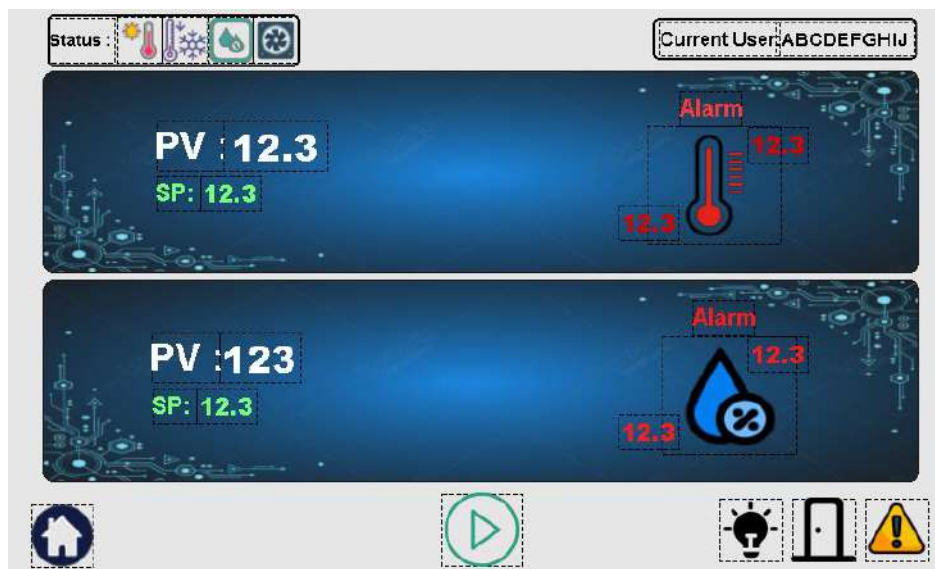

Fig.3
■ Main Display Panels (Fig. 3)